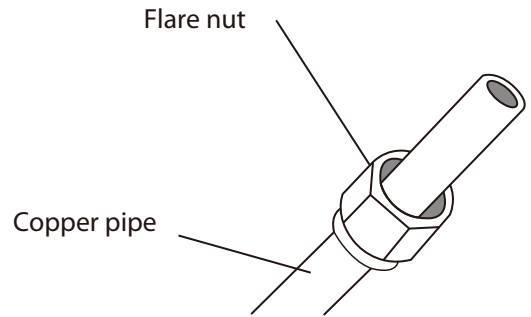

Fig. 5.3
3. Place flare nuts on both ends of pipe. Make sure they are facing the correct direction, because you can't put them on or change their direction after flaring. See Fig. 5.3 .